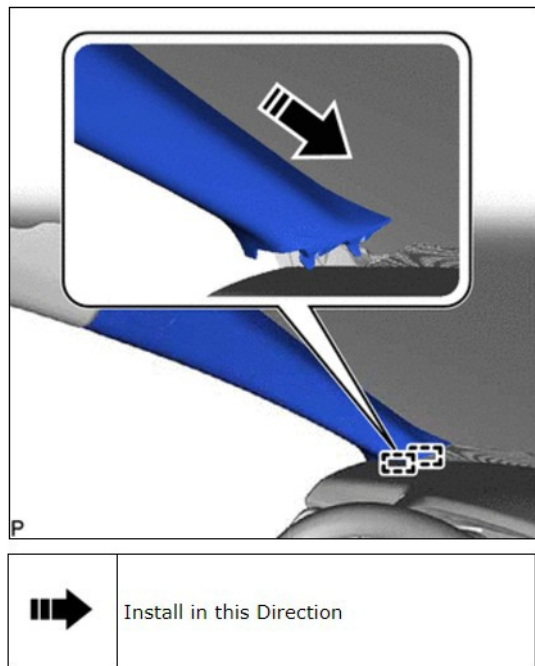

Figure 48
- (1) Push the front pillar garnish LH as shown in Figure 48 to engage the 2 guides.